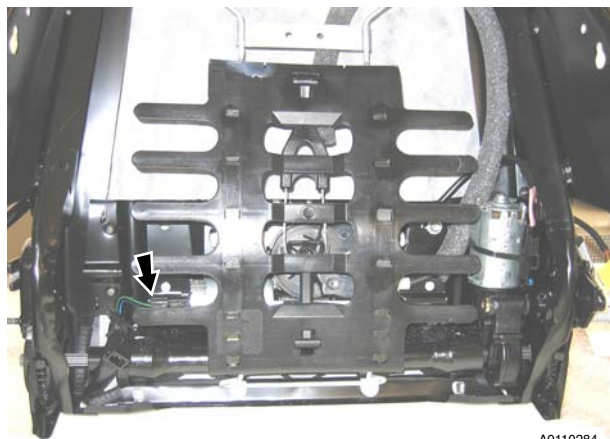

Figure 3
4. Disconnect lumbar motor multiplug (see Figure 3).